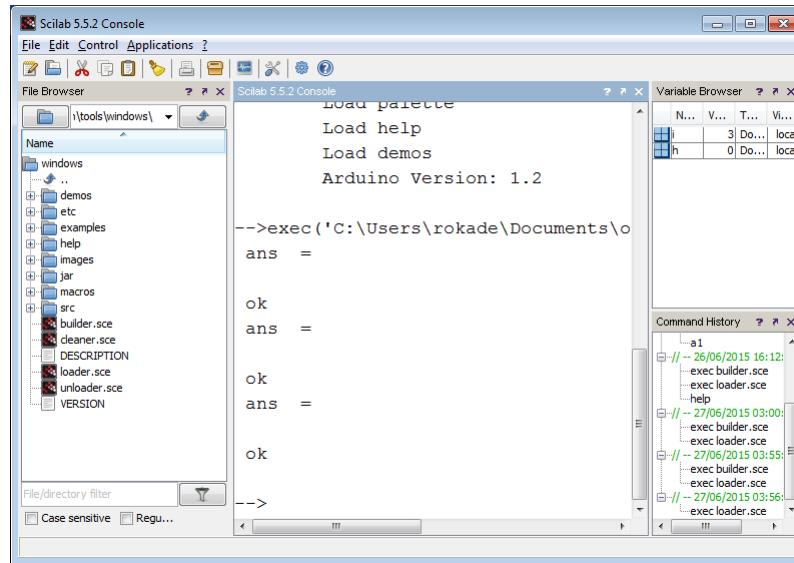

Figure 3.13: Scilab test code output
7. To execute this code, on the menu bar, click on the **Execute**, option. Then choose **File with no echo**. The output will appear on the console as shown in Fig. 3.13. As shown in the figure, we see the response of this code as "ans = " and "ok" three times. The code basically gives some input to Arduino three times and the program inside it returns "ok" three times. This code thus confirms the working of the Scilab-Arduino toolbox. The code also confirms that the firmware inside the Arduino is correct. It is alright if one or two of the attempts out of three give a blank response. But all the three responses certainly should not be blank⁵.